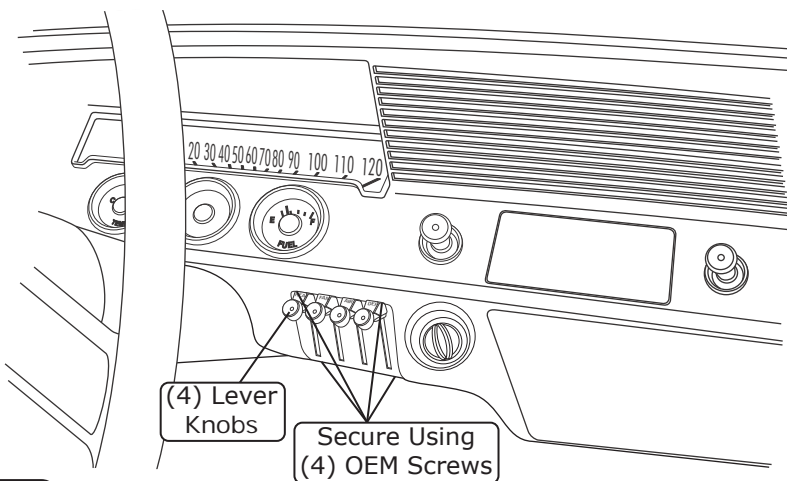

Figure 11
1. Reinstall the control panel into the dash using (4) OEM screws (See Figure 11, below).
2. Reinstall the control panel lever knobs as shown in Figure 11, below.